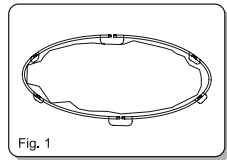

Fig. 1
3. Insert all the Top Rails into the pole sleeve on the top of the pool. (Fig.1)